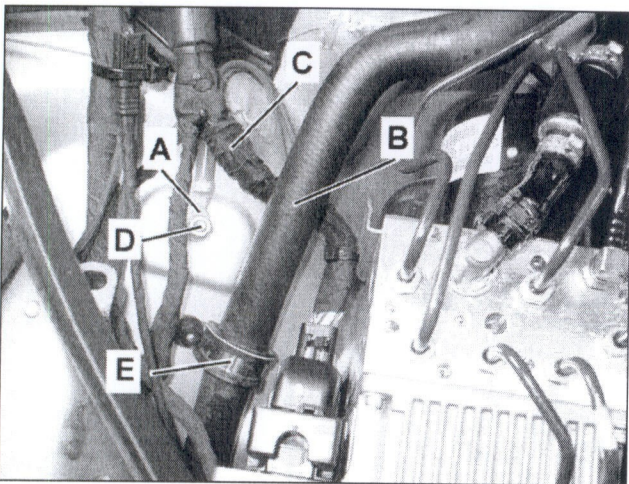

Figure 23
29. Attach hose mounting strap (E, Figure 23) to mounting stud, secure with nut
- Ring connector (A, Figure 23) **must** be positioned as shown to avoid contact with water hose (B) and chafing the wire harness (C).
- This ground terminal (D) is to be used **only** for mounting the SBC ground wire.